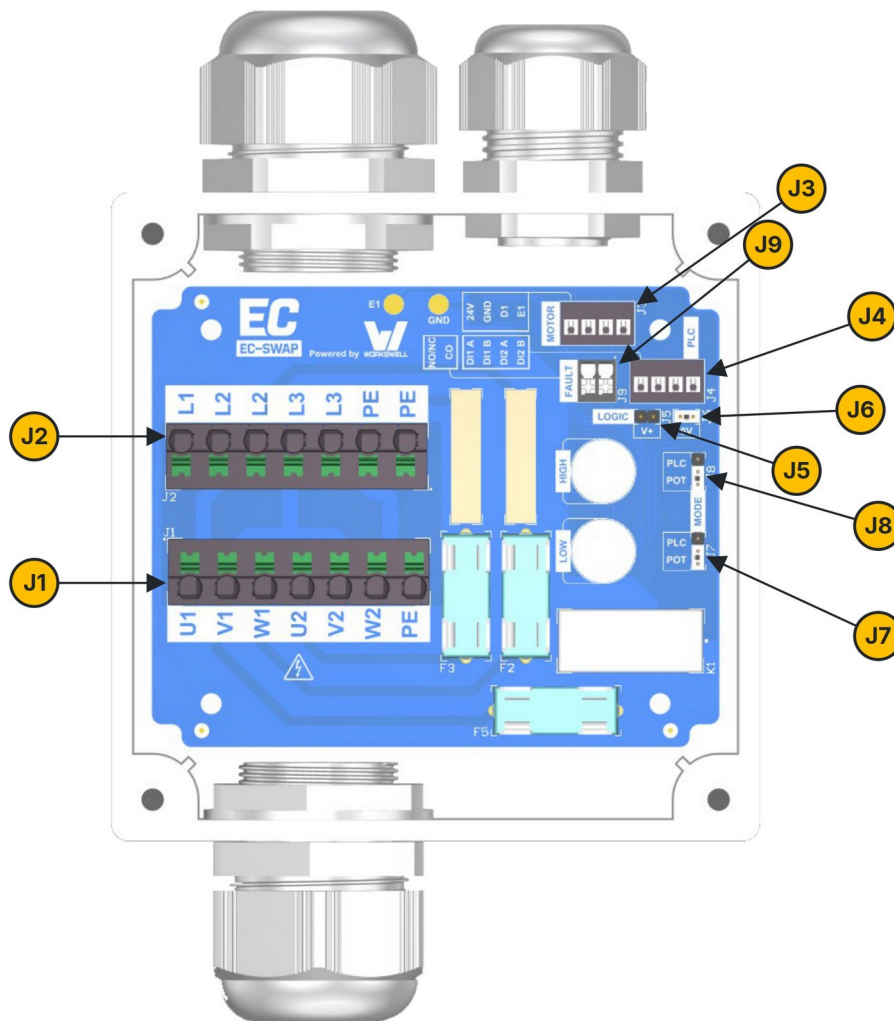
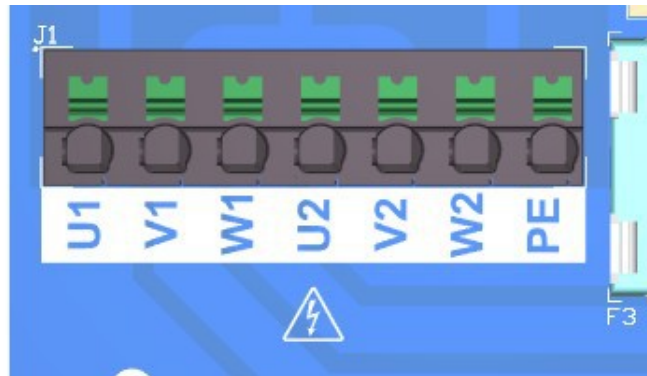
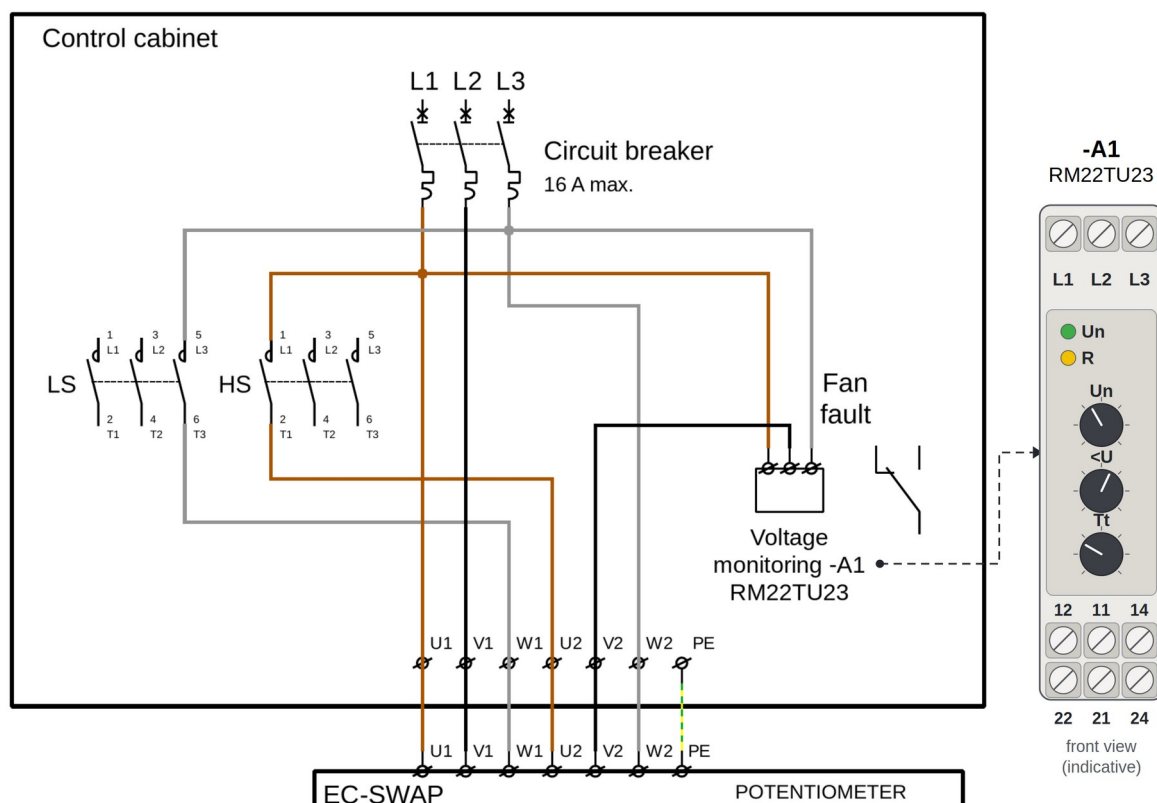
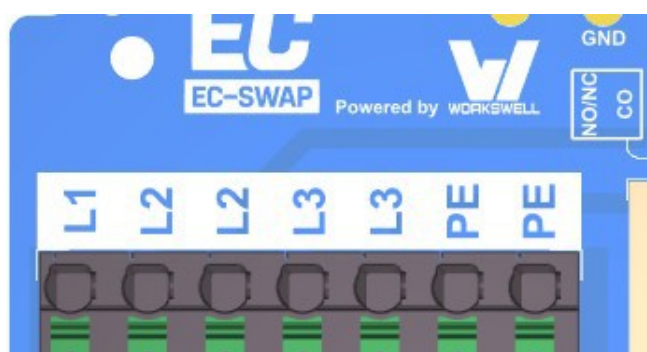

Figure 5: Accessible connection areas, markings J1 to J9
Figure 6: Location of the LS/HS supply (terminal block J1)
Figure 7: Connection of the LS/HS supply and monitoring relay -A1 (extract from the wiring diagram, example with 1 fan; front view of the relay indicative)
Figure 8: Location of the EC motor output (terminal block J2)
Modification procedure, according to the reference wiring (wiring diagram "EC-SWAP 1 fan", sheets 4 and 5, and Figure 7):
The LS/HS supply input (J1, Figure 5 and Figure 6) is both the power input and the control input of the EC-Swap. It is connected to the existing control cabinet with 3 × 400 V three-phase without neutral conductor, with the protective earth conductor (PE). U1, V1 and W2 are permanently supplied by L1, L2 and L3, downstream of the circuit breaker; each contactor switches only one phase: the LS contactor switches L3 to W1, the HS contactor switches L1 to U2 (Figure 7). The terminal energised by a contactor (W1 or U2) determines the commanded speed; the EC motor output is supplied by U1, V1 and W2 (section 6.3). Terminal V2 carries the fault return to the voltage monitoring relay in the cabinet (section
Connect according to the printed terminal markings and the diagram in Figure 7: L1, L2 and L3, downstream of the circuit breaker, to U1, V1 and W2; one pole of the LS contactor (L3) to W1; one pole of the HS contactor (L1) to U2; V2 to the three-phase voltage monitoring relay -A1 (Schneider RM22TU23), for fan fault signalling; the protective earth conductor to terminal PE. Observe the conductor cross-sections and stripping length given in chapter 9.
The supply output to the EC motor (J2, Figure 5 and Figure 8) delivers the power required by the EC motor at 3×400 V three-phase without neutral conductor, on terminals L1, L2, L3 and the protective earth conductor PE. This output is supplied from the LS/HS input, via U1, V1 and W2: it remains permanently live, whether or not an LS or HS command is present. The command only controls the enable (D1) and the 0-10 V setpoint (E1) of the EC
2. Check for the absence of short circuits and the continuity of the protective earth conductor (PE) on all connections.
5. Set the monitoring relay -A1 (RM22TU23, front panel: Figure 7): selector Un to 400 V; threshold $<U$ and time delay T_t to be determined at commissioning, according to the installation.